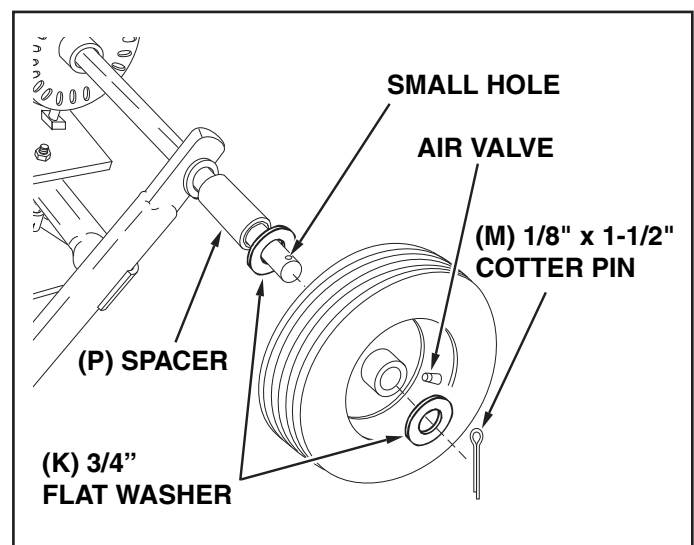

FIGURE 3
7. Assemble a spacer (P), a 3/4" flat washer (K), a wheel (air valve facing out) and another 3/4" flat washer (K) onto the end of the axle that has only the **small hole**. See figure 3.
8. Install a 1/8" x 1-1/2" cotter pin (M) into the hole in the axle. See figure 3.